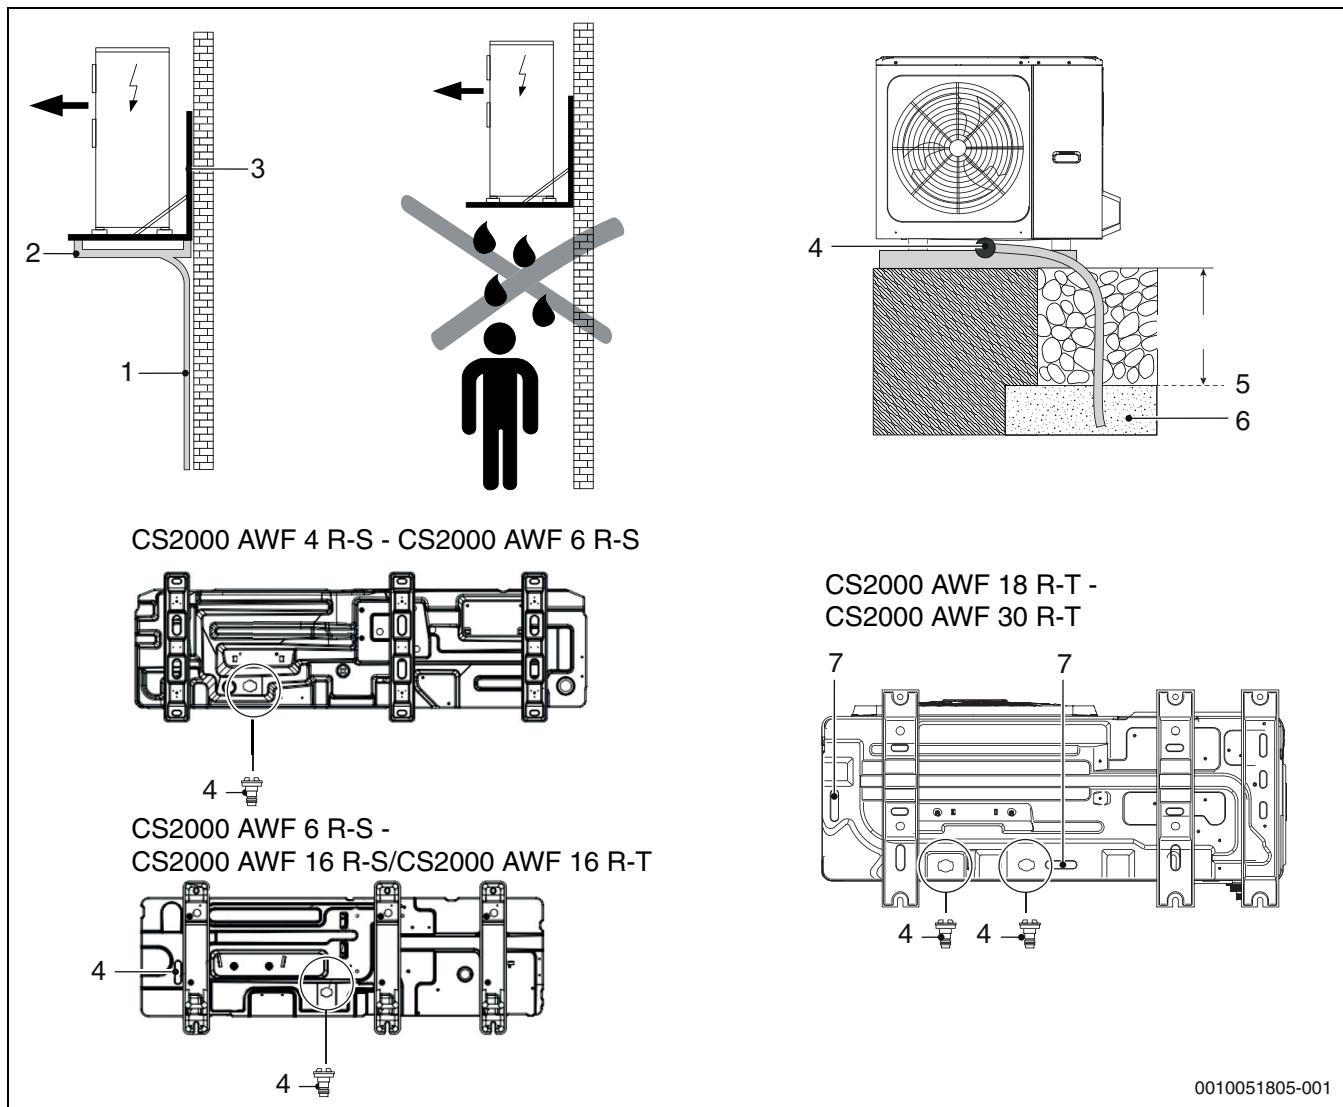

Fig. 49 Condensate drain
- Install the pipe below the frost line (→ Figure 49, [5]).